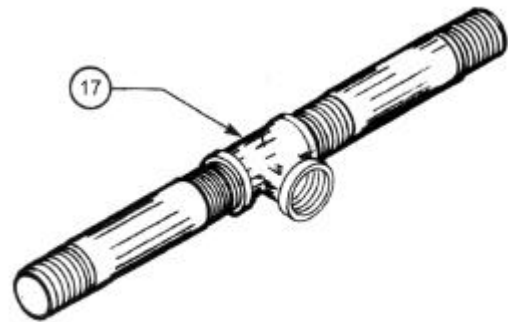

Figure 7
9. Construct a Tee handle using two 25mm x 150mm (1 in x 6 in) galvanized nipples and a 25mm (1 in) galvanized tee (Figure 7). Hand tighten the Tee handle onto the 25mm (1 in) galvanized pipe that connects to the drop pipe fitting.